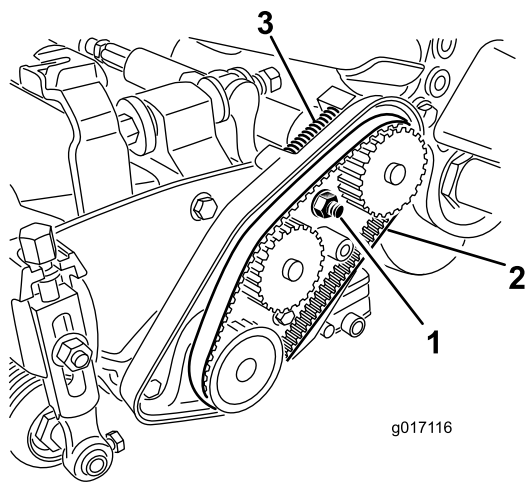

Figure 14
3. Loosen the bearing housing mounting nut (Figure 14).
5. Remove the belt (Figure 14).
12. Ensure that the compression spring is applying tension to the belt (Figure 14).